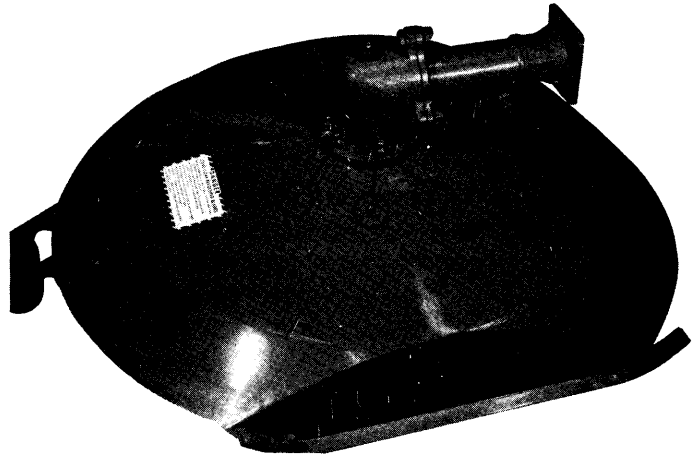

Fig. 3
3. Place the mower drive on the deck as shown in fig. 3. Align the bolt holes in the drive with the deck and secure with the six 1/2 x 1-1/2 bolts, washers and 1/2 nuts. The bolts must be inserted from under the deck.